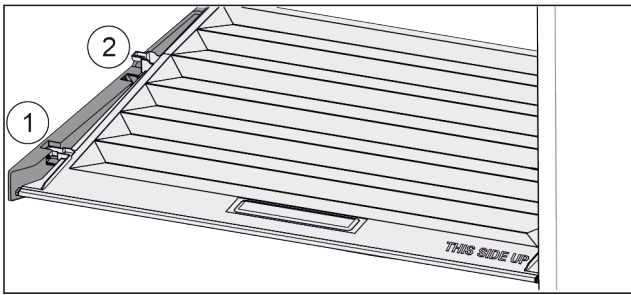

Fig. 156
- ▶ Pull the lid up at the front in the retaining parts to the opening Fig. 156 (1).
- ▶ Lift from the back and pull it up and out Fig. 156 (2).